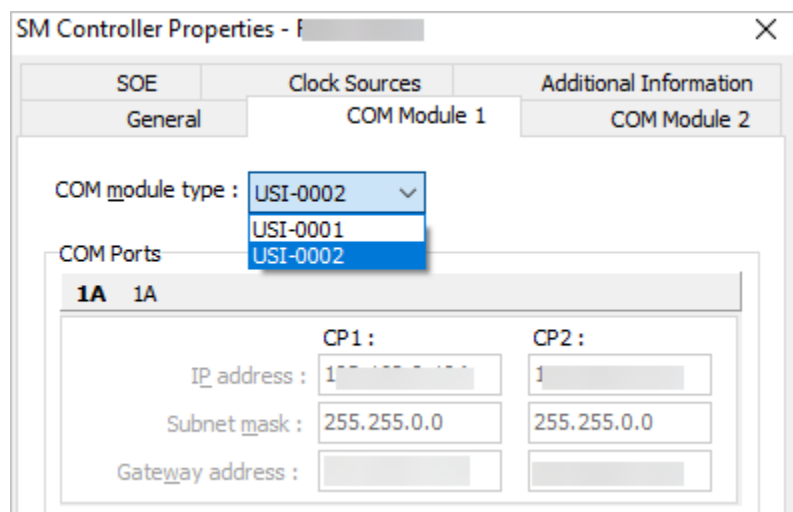

Figure 1
- Update the USI module type SM Controller Properties (Refer to figure 1)